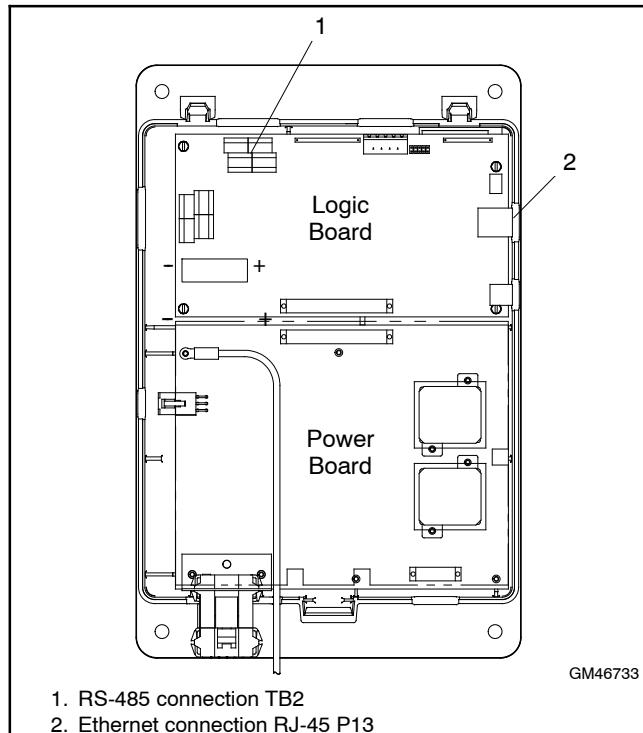

Figure 13-2 ATS Controller, Cover Removed
2. Ethernet connection: Use CAT5 network cable to connect to RJ-45 connector P13 on the controller. See Figure 13-2 for the connector location.
- a. Remove the controller housing cover to gain access to connector TB2.. See Figure 13-2.